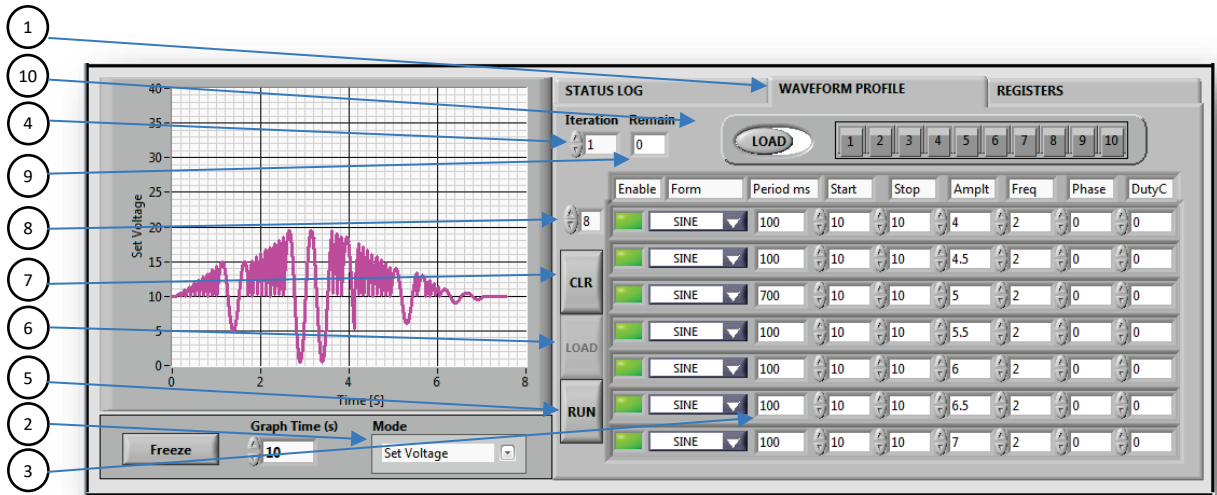

Figure 27
- 2.1. Select "WAVEFORM PROFILE" (1). Refer to Figure 27.